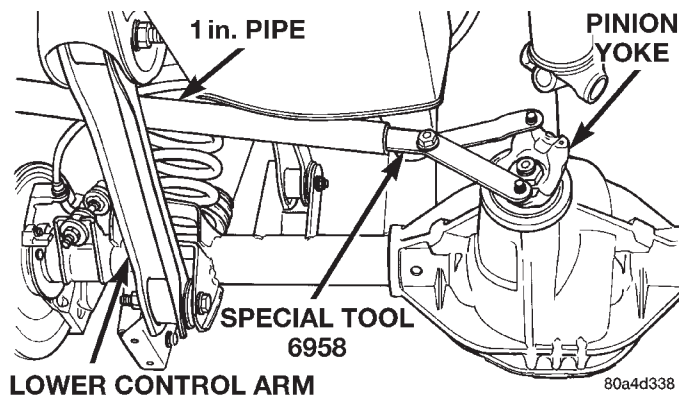

Fig. 36 Pinion Yoke Holder—Typical
(1) Remove differential assembly from axle housing.
(2) Mark pinion yoke and propeller shaft for installation alignment.
(3) Disconnect propeller shaft from pinion yoke. Using suitable wire, tie propeller shaft to underbody.
(4) Using Holder 6958 to hold yoke, remove the pinion nut and washer (Fig. 36).